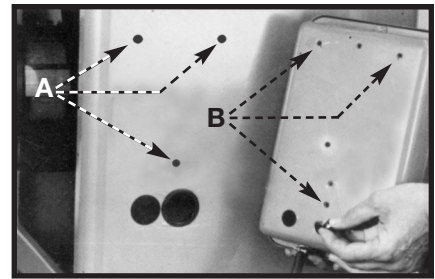

Fig. 15
Install three 1/4-20 x 1/2" hex head screws with lockwashers through the rear of the tool (A) Fig. 15, and into the tapped holes (B) on the back of the electrical box.